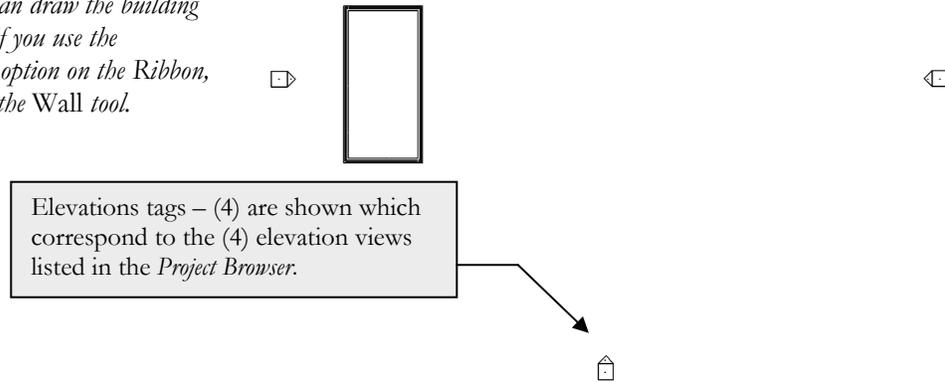

FIGURE 7-1.1 Bldg. and Elev. tags
5. Using the **Wall** tool with the wall *Type* set to “**Exterior - Brick on Mtl. Stud,**” draw a **40'-0" x 20'-0"** building (Figure 7-1.1).